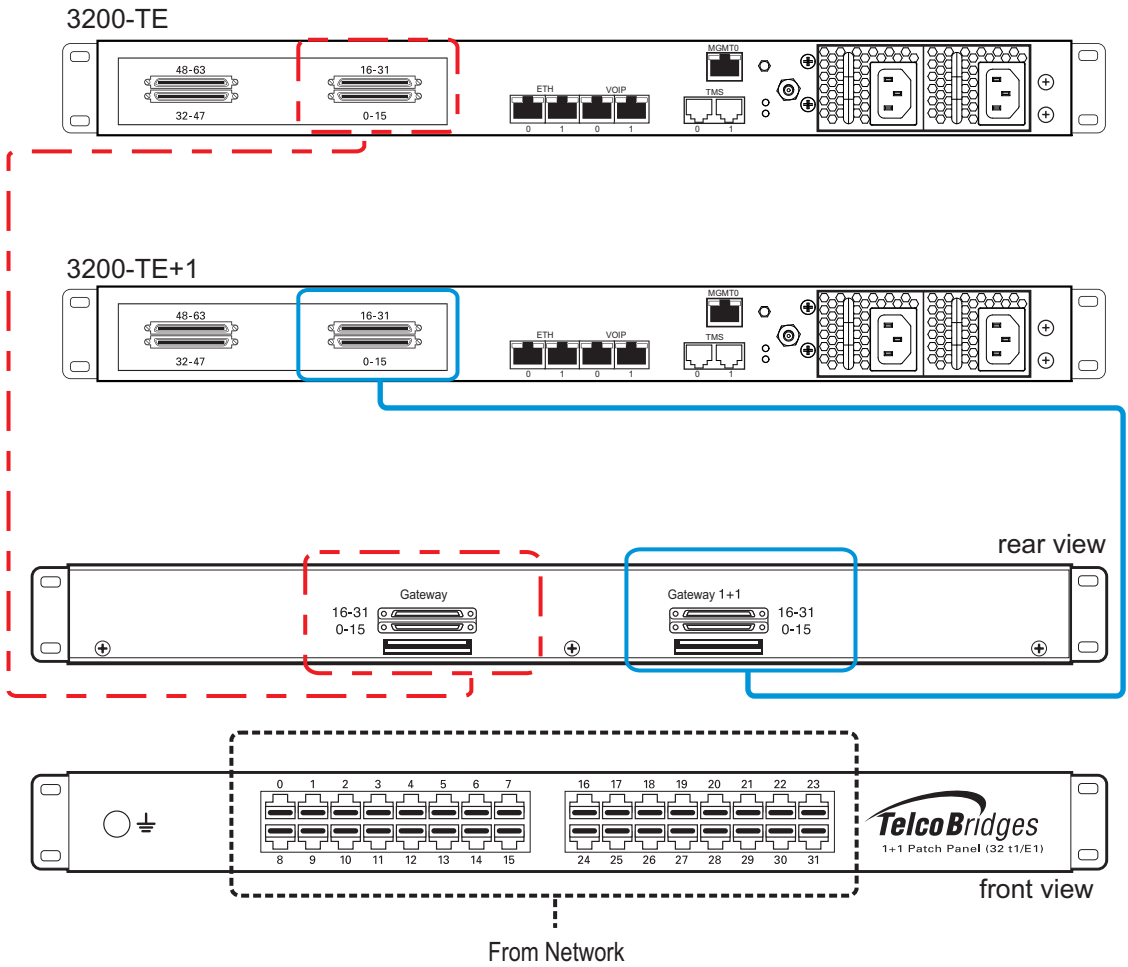

Figure 2.13 3200-TE and 3200-TE+1 connecting to the TDM 1+1 32/T1/E1 1+1 patch panel
1. Connect each T1/E1 line from the network section of the 1+1 patch panel to the remote equipment. See figure 2.13 on page 32.